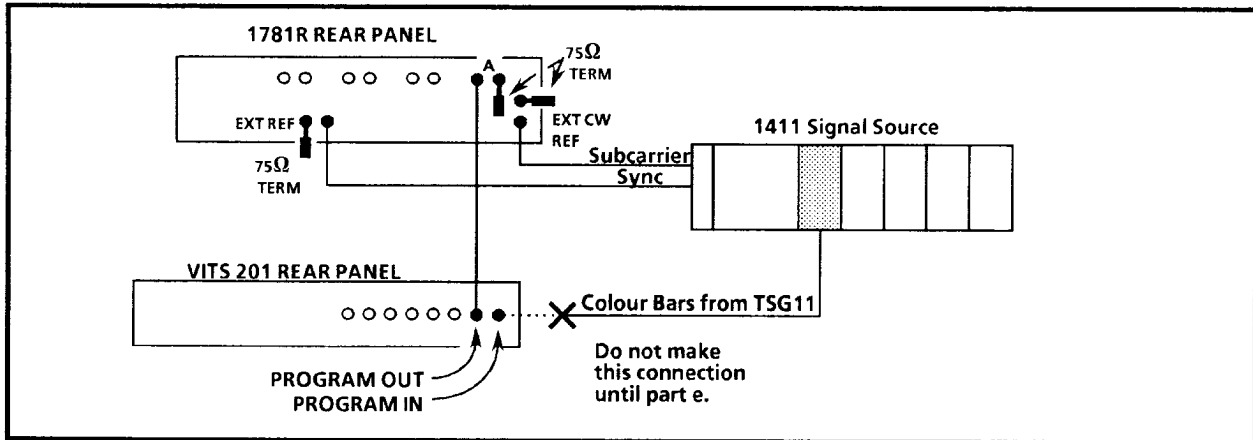

Figure 6-6. Equipment connections to check Genlock Acquisition and Jitter.
- a. Connect the equipment as shown in Figure 6-6.
- a. Connect Black Burst from the 1411 front panel to the VITS 201 PROGRAM IN. Leave all other connections as shown in Figure 6-6.